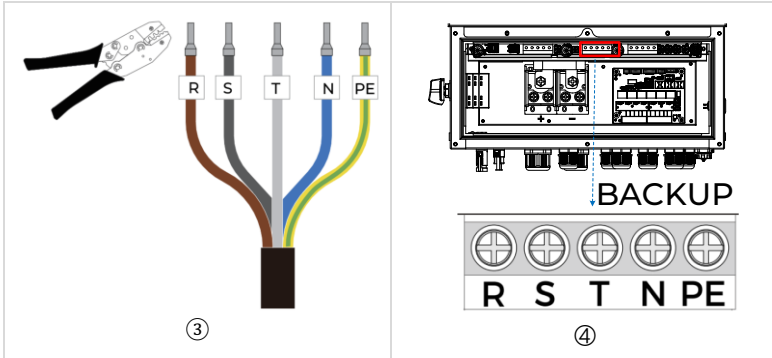

Figure 5-4 Backup connection
Step 2 The prepared cable is inserted through the BACKUP port as shown in Figure 5-4①.
Step 3 Remove the insulation layer of the cable by using a wire stripper according to the Figure 5-4②.
Step 4 Insert the stripped power cables into the cord end terminals respectively and crimp them by using a crimping tool, as shown in Figure 5-4③.
Step 5 The cables shall be connected to the ports according to R, S, T, N, PE respectively as shown in Figure 5-4④.